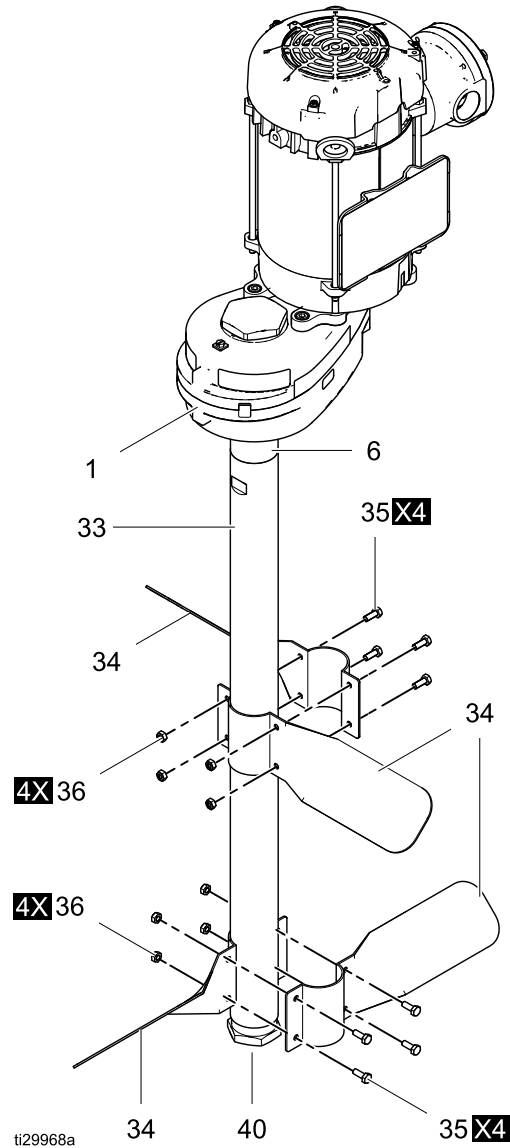

Figure 2 Agitator Shaft and Blades
1. Install the agitator shaft (33) by threading it into the stub (6) on the bottom of the back-gear housing (1). See Figure 2.
5. Assemble one pair of agitator blades (34) so that the four holes in the blade halves are lined up.
6. Push four cap screws (35) through the four holes in the blades, and start the four lock nuts (36) onto the cap screws.
10. Position the second blade assembly near the bottom end of the shaft, but not on the bottom plug (40).